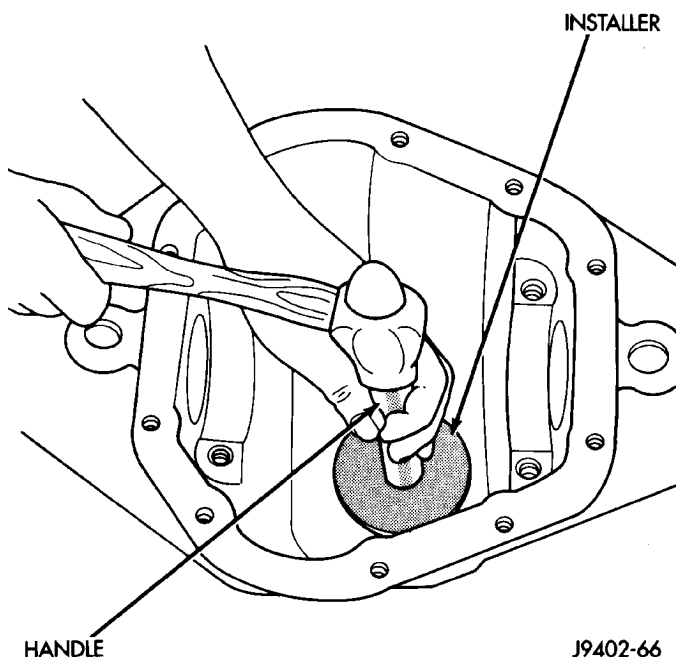

Fig. 43 Pinion Rear Bearing Cup Installation
(1) Apply Mopar® Door Ease stick lubricant to outside surface of bearing cup. Install the pinion rear bearing cup with Installer C-4308 and Driver Handle C-4171 (Fig. 43). Ensure cup is correctly seated.